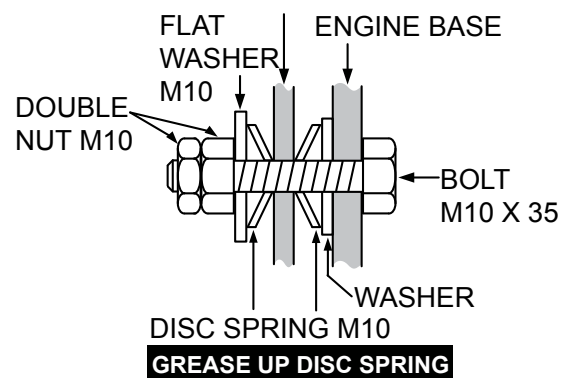

Figure 4. Axle Adjustment
1. Loosen both inner and outer M10 nuts (items 9 and 11) on one side of the axle. See Figure 4.